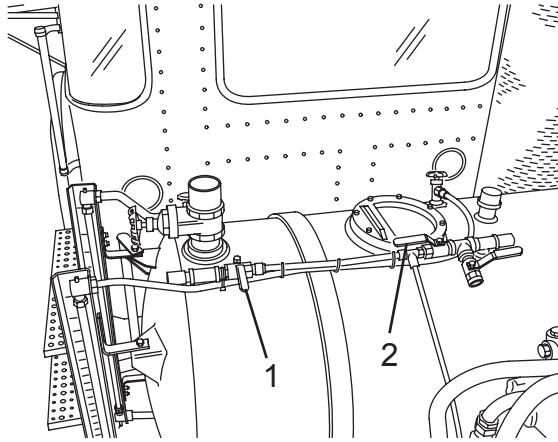

Figure 97
1. Open the air valve (Figure 97, Items 1 or 2) of the tank compartment to be pressurized. If equipped with an optional split tank, each compartment will have its own valve.